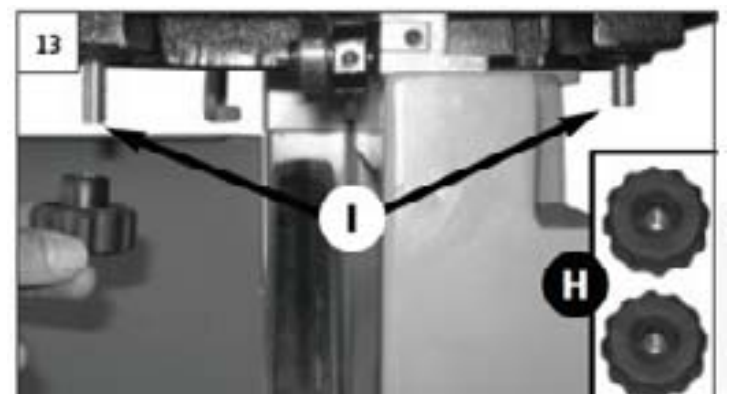

FIGURE 13: TABLE INSTALLATION
6. Thread the two small LOCK KNOBS (H) onto the LONG BOLTS (I) now protruding from the underside of the table tilt bracket and tighten carefully. See Figure 13.